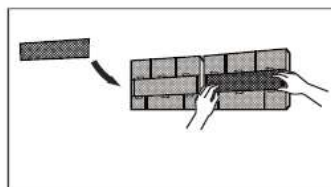

fig. 19 -
4. Remove the air purifier filter on the back of the main filter ("fig. 19 -") and clean it with a vacuum cleaner